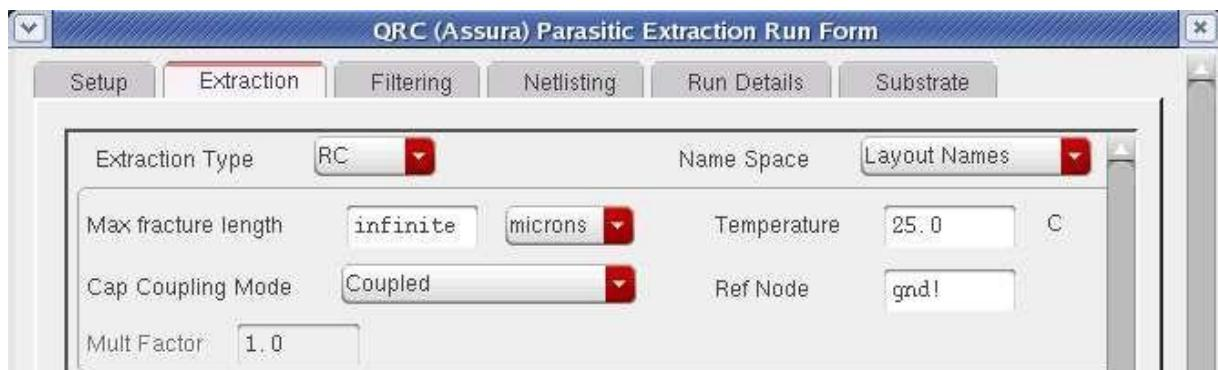

Figure1.26: Parasitic extraction Run Form
3. In the Extraction tab of the form, choose Extraction type, Cap Coupling Mode and specify the Reference node for extraction as shown in figure1.26